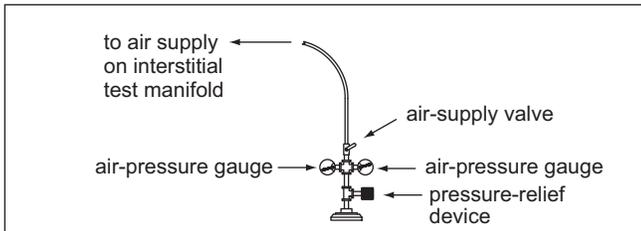

FIGURE 3-2
1.3.1.7. a test manifold for each air-testable tank or compartment—see *FIGURE 3-2*
3.4.3. Construct a test manifold with two pressure gauges as shown in FIGURE 3-2. Each pressure gauge must have a maximum full-scale reading of 15 psig with graduations in 1/2 psig increments, and a pressure-relief valve set at 6 psig (4 psig for 12-foot-diameter tanks).
3.4.3.1. When air testing multicompartiment tanks, a test manifold is needed for each compartment. See FIGURE 3-2.
3.4.3.2. A test manifold is needed for testing the dry interstitial space of an air-testable, double-wall tank. See FIGURE 3-2.